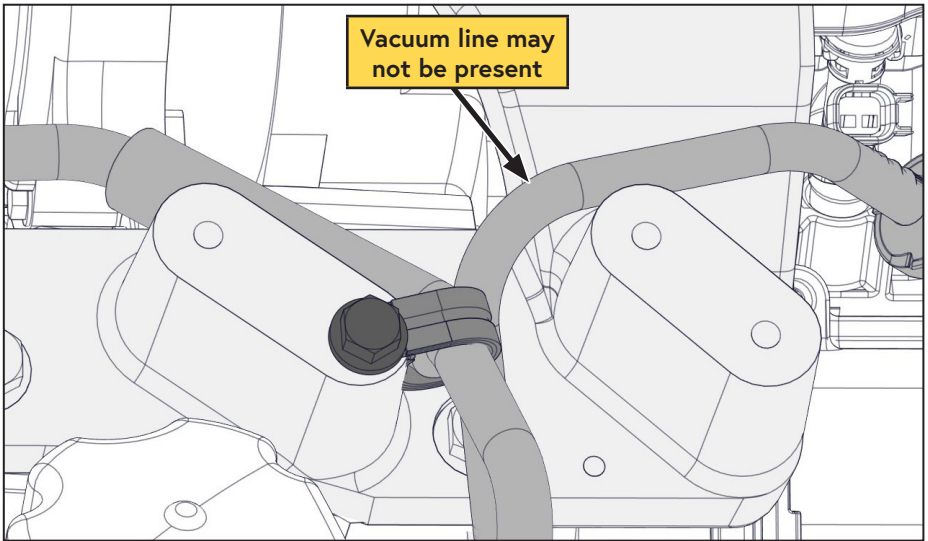

Figure 25 — Secure AC line
- ☐ Using the supplied P-clip and M8×1.25×12 fastener, secure the AC line to the VMAC bracket (Figure 25).